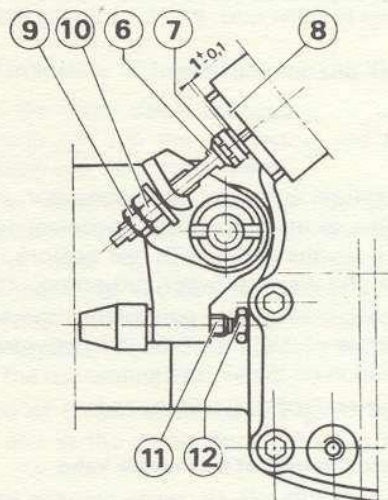

Fig. 2.12 Air valve and enrichment adjustment
Hold the pull rod with the help of wrench 8.0112 (Fig.2.12). Slacken the nut (7) with the aim of inserting the gauge 8.0112 N between the nut (7) and the closing plug (8). Tighten the nut, to obtain a play of 1.0 ± 0.1 mm (0.04 ± 0.004 in.) as determined by the thickness of the gauge.
Slacken the locknut (9) in Fig. 2.12 and the nut (10) to free the enrichment lever (11), so that the latter can contact the stop (12) on the fuel injection pump. Screw in the nut (10) until it touches the enrichment lever.